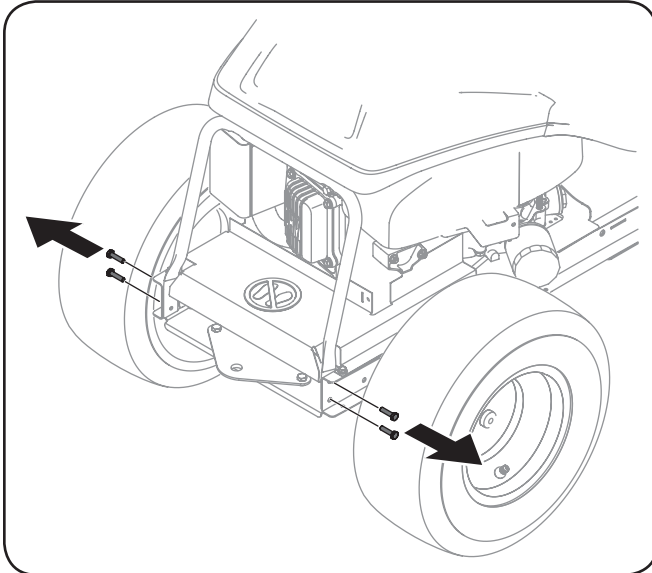

Figure 4-1
1. Remove, and discard, the four self-tap bolts on the rear frame of the tractor, as shown in Fig. 4-1.